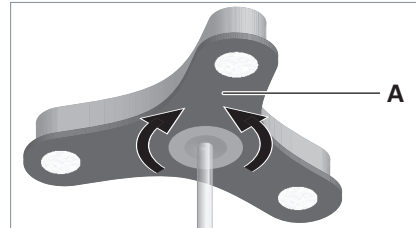

Fig. 13: Aligning the light head.
- ▶ Rotate the light head **A** around its own axis, see Fig. 13.